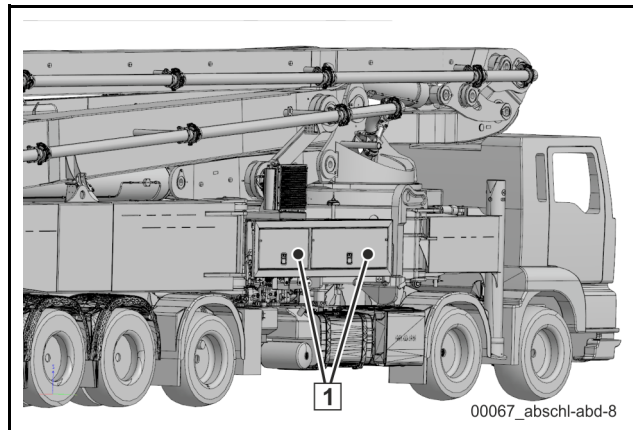
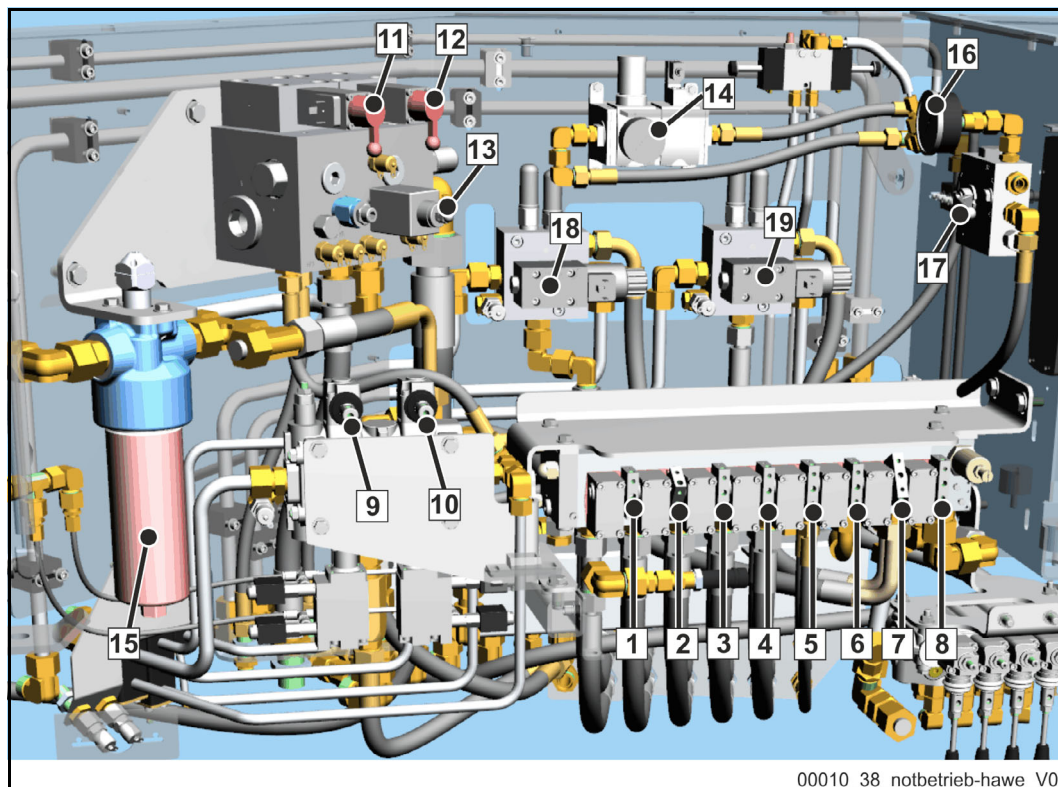
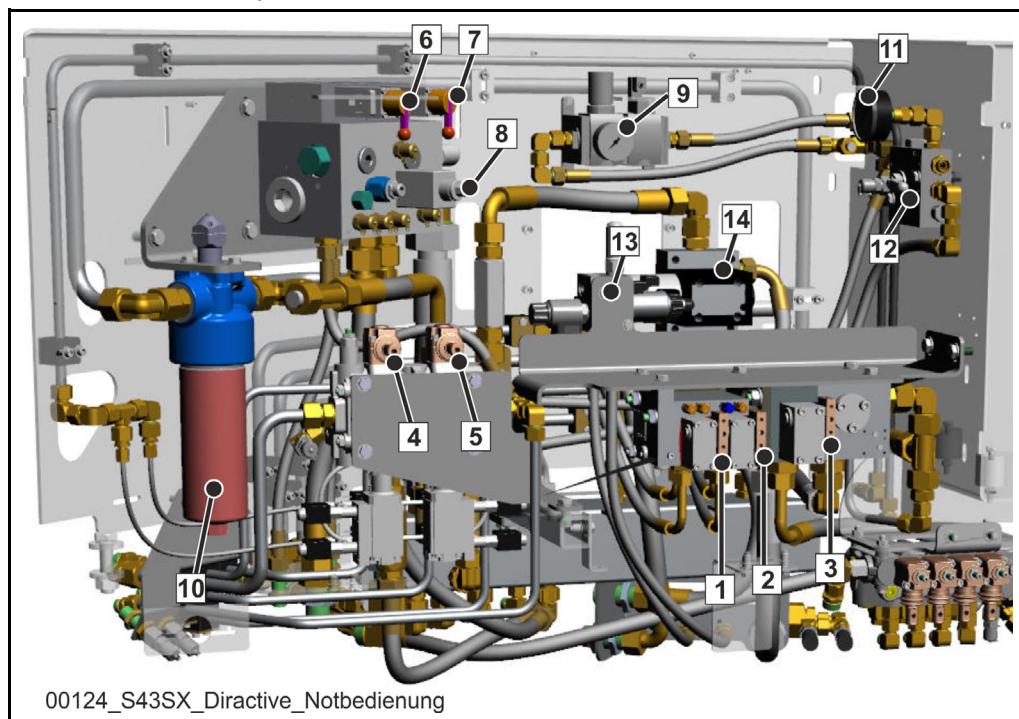

Fig. 216 Position, "emergency operation" control platform (example illustration)
Fig. 219 Control station for operating mode: Emergency operation (example illustration)
Fig. 220 Control station for operating mode: Directive emergency operation (example illustration)
The emergency operation control platform (**Fig. 219**) is located on the right in the direction of travel, behind a lockable flap (1) (**Fig. 216**).
To do this, the control lever (7) (**Fig. 219**) has to be moved into the “Placing boom” position and held there. In addition, the respective control lever for boom function 1 - 6 must be actuated.
In emergency operation, the release button may not work and the control lever (7) (**Fig. 219**)/(**Fig. 220**) has to be actuated manually.
If this is not possible, instruct an assistant to switch the control lever (7)/(**Fig. 219**)/(**Fig. 220**) into the "Outrigger" position and to hold it in place.